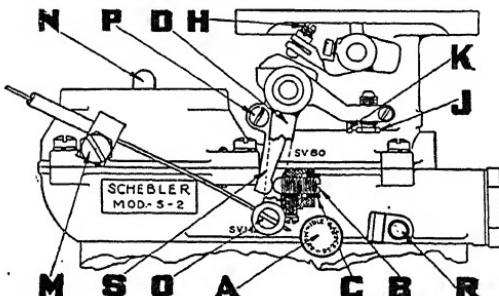

Fig. 131. Service Drawing of Schebler Model "S" Carburetor
**Carburetor Adjustments.** Having a thorough understanding of the principles involved and the working of the parts shown in the sectional views of this carburetor, the repair man is able to go about the adjustment of the carburetor in an intelligent fashion. A section of the exterior of the carburetor is illustrated in Fig. 131. There are several standard installations of the carburetor with
reference to the hook up of the choke wire. The one shown in Fig. 131 is different from the one shown in Fig. 130, but the principles involved are the same.
*Idle Adjustment.* The idle adjusting screw *A*, Fig. 131, is turned to the right for a lean mixture and to the left for a rich mixture. In order to check the idle adjustment, the motor should be warmed up thoroughly. Close the throttle and retard the spark all the way and then adjust the idle stop screw *B* so that the motor will idle not less than 5 miles per hour on the road. Then proceed to check up. Turn the idle adjusting screw *A* to the right slowly. Watch the motor fan at the same time and continue to turn it in this direction, which is leaning the mixture, until the fan falters or is not turning with a smooth constant motion. Just as soon as the
*Power Adjustment.* Extensive laboratory experimentation and road research shows that this carburetor gives the best mixture for maximum power on the hills or at high speeds when the power screw *J*, Fig. 131, is flush with the pin *K*. In high altitudes more power may be obtained by leaning up on the power mixture, that is, turn *J* to the left or counterclockwise from three to five turns. The higher the altitude, the greater the number of turns suggested.